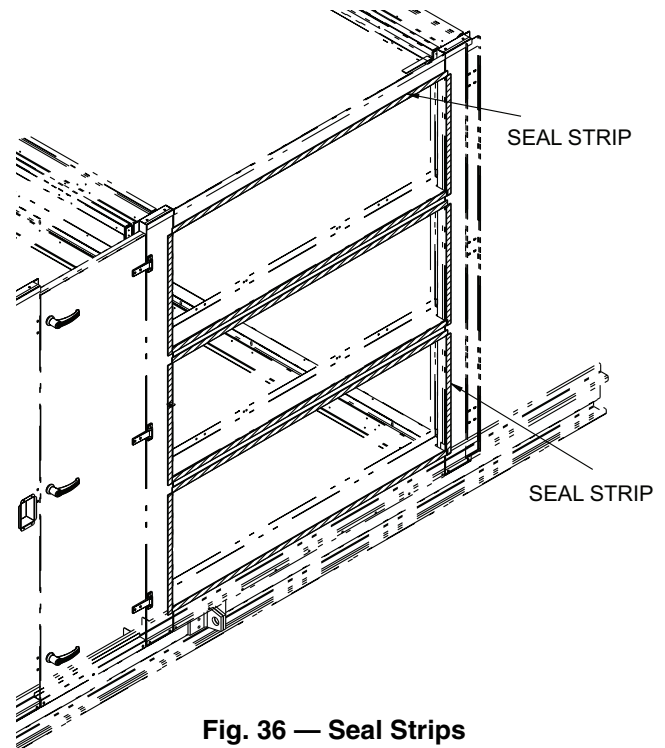

Fig. 36 — Seal Strips
3. Apply seal strip to the unit. Strip should extend around entire openings (see Fig. 36).
2. Apply seal strip to the unit around the damper openings. See Fig. 36.